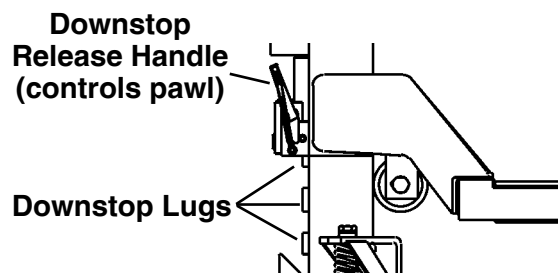

Figure 6
3. Verify the downstop pawls will engage the downstop lugs **AT THE SAME HEIGHT** on each lift. Use the air control unit to adjust the level of the vehicle, if necessary. Figure 6.
2. Verify the downstop pawls are securely engaged on the downstop lugs of each lift and the raised axle is level. Fig. 6.
10. Verify the downstop pawls are securely engaged on the downstop lugs of each lift, and the raised axle is level. See Figure 6.